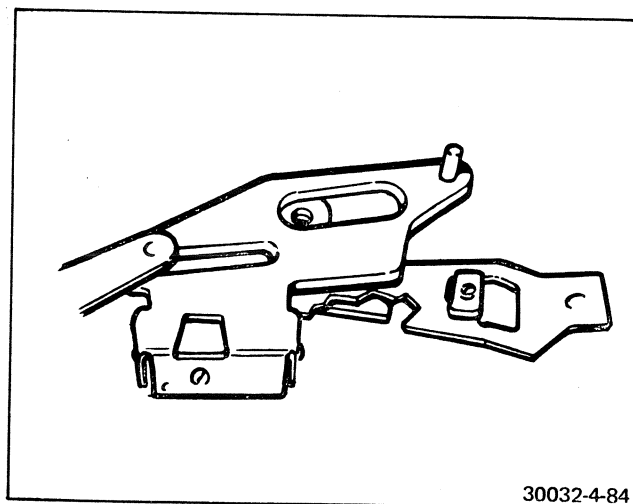

FIGURE 4-84 CAM FOLLOWER ASSEMBLY
- k. Using tweezers, pick off the cam follower assembly (Figure 4-84).